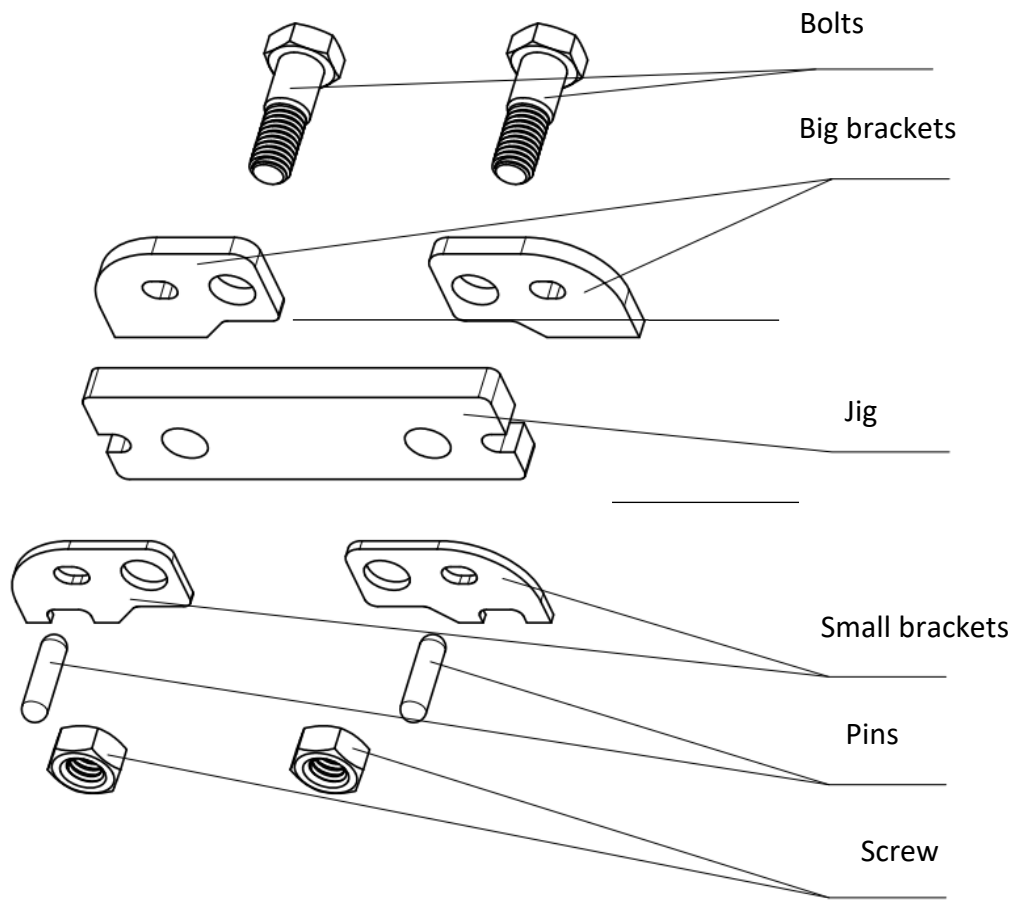
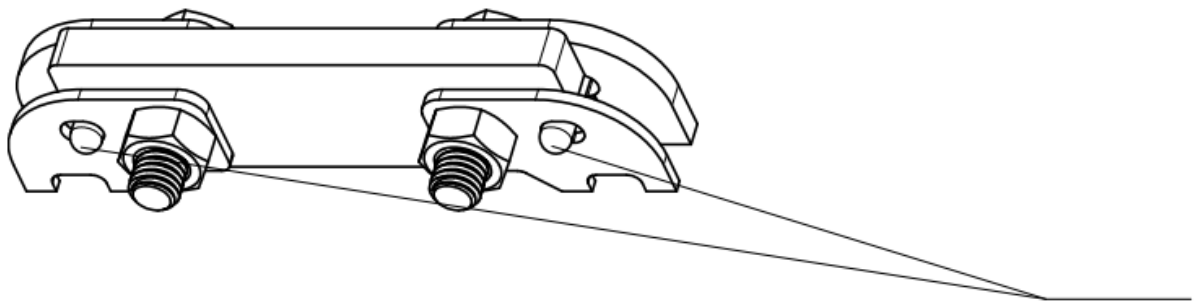

fig. 3.3. Sensor assembly with brackets
Fig. 3.4. The pins secure the supports when tightening the nuts.
- 3) Assemble the jig with supports for welding the brackets at the installation site (Fig. 3.3). The function of the jig is to ensure the correct orientation of the brackets during welding. First, it is necessary to install the pins (Fig. 3.4), which secure the brackets in a fixed position while the bolts are tightened.